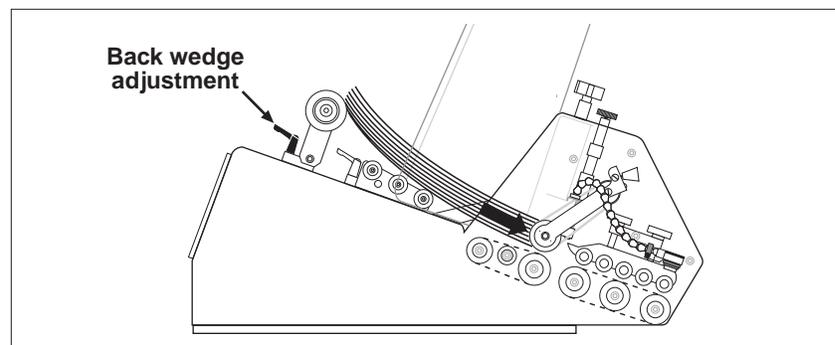

Figure 12. Positioning Product Prior to Loosening Back Wedge
2. Place the preshingled material in the hopper so that the edges rest against the curvature of the gate assembly (Figure 12).
3. Turn the back wedge wing-nut adjustment counter-clockwise to loosen the wedge (Figure 12).